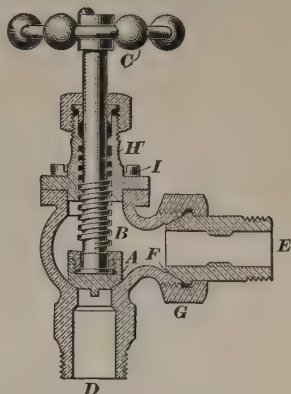

FIG. 2
3. Stop-Valve.—The stop-valve included in the engine equipment is illustrated in Fig. 2, which shows the valve in section; the bonnet *H* is secured to the body of the valve by the screws *I*, instead of being screwed into the body.
If the regulator will not maintain a low pressure, it is probably due to a leaky valve C or to dirt on the seat of the valve. When about to take the regulator apart, relieve the tension on the diaphragm spring F by screwing the wheel handle in the same direction as when tightening up an ordinary nut. Then unscrew the spring case I and remove the button b , diaphragm G , and cap K containing the auxiliary valve c . Pull valve C out, clean its seat, and also make sure that its stem works freely up and down in hole h . Next, insert a screwed rod (supplied for the purpose) through the hole h into the tapped hole in piston D and see if the latter works freely. Note that D cannot be raised and lowered very suddenly, on account of the resistance of dashpot E . If piston D is found to be stuck fast, remove the dashpot E , pull out the piston and clean it carefully with fine emery cloth, wiping it quite clean before replacing. Having made sure that the auxiliary valve c has a good bearing on its seat, and also that its stem moves freely in its hole, replace cap K with valve c therein. Before putting on the spring case I , see that the diaphragm is clean and that there is no dirt between it and the spring case or the body M . If the reducing valve is disabled so that no steam will pass into the train pipe, remove dashpot E , as already described, and put a small block or nut under the piston D to hold it up and the valve C open so that steam can pass valve C and regulate the train-pipe pressure with the stop-valve, Fig. 2.